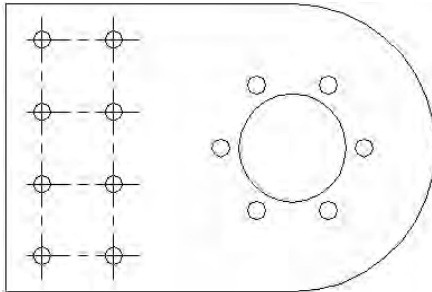

Figure 10-7: The completed mounting bracket
8. Click Preview. You should see a total of four horizontal lines, as shown in Figure 10-7. Click Accept on the small dialog box that appears. (If you don't see the four lines, click Modify and recheck the settings in the Array dialog box.)
13. Click Preview to preview the array. If the circles look like Figure 10-7, click Accept. Otherwise, click Modify and check your settings. After you're done, AutoCAD arrays the holes to fit the centerlines.
19. Click Preview to see the array. It should look like Figure 10-7. If it does, click Accept. If not, click Modify and recheck the settings in the Array dialog box. AutoCAD completes the mounting bracket.
20. Save your drawing. It should look like Figure 10-7.